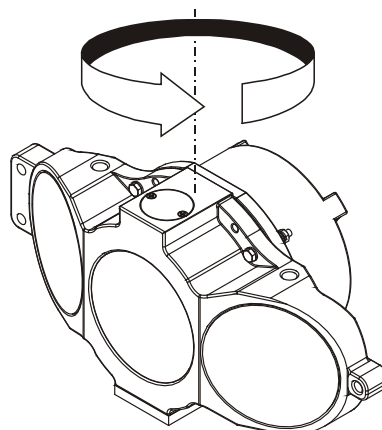

Figure 23. Compass Calibration
4. Tilt the H-ADCP (see Figure 23). Tilt an upward-looking H-ADCP with a block under one side of the end-cap. A 35-mm block will give you an 11-degree tilt. Check the on-screen instructions to see if the orientation is OK. Adjust as necessary.
6. The second rotation requires the H-ADCP to be tilted 15 degrees in another direction than from the first rotation (see Figure 23). Follow the on-screen instructions to orient the H-ADCP correctly. When prompted, rotate the H-ADCP slowly 360 degrees (approximately 5 degrees per second).